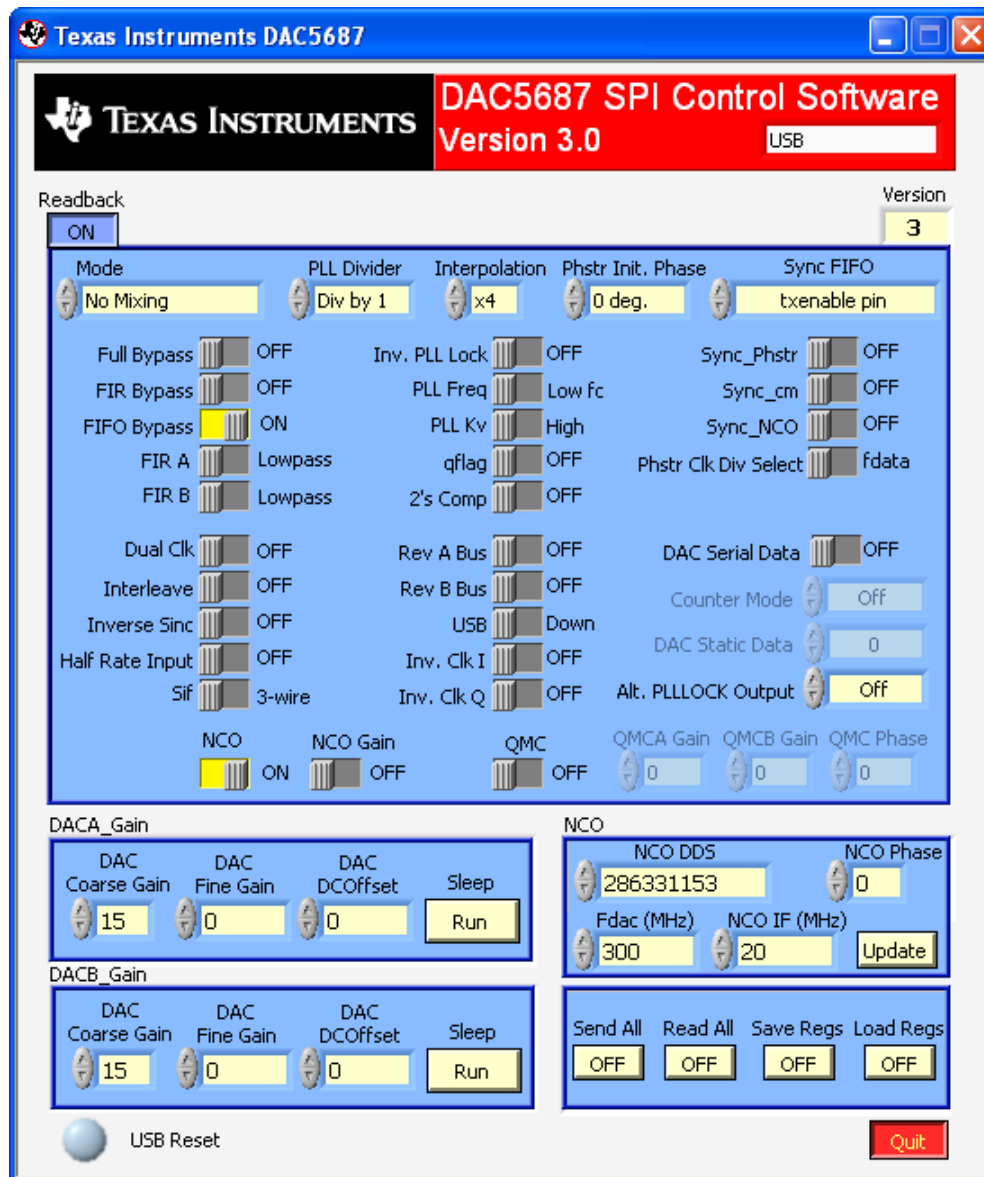

Figure 4. DAC5687 Setup for X4 Mode and NCO Tone at  $F_{DAC}/15$
7. Change the interpolation to X4, and the mode to *No Mixing*, the NCO DDC to 286331153 ( $F_{NCO}/15$ ) and reduce the CLK2 frequency to  $< 320 \text{ MSPS}$ . The GUI should look as shown in Figure 4. The NCO is now running at the DAC update rate (= CLK2). For CLK2 = 300 MSPS, the result is an output tone at 20 MHz.